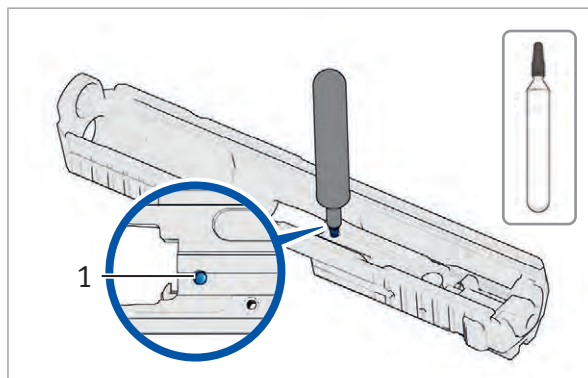

Fig. 52: Flush firing pin bore with oil
2. Flush firing pin bore with oil until it is free of sealant (*Fig. 52*).